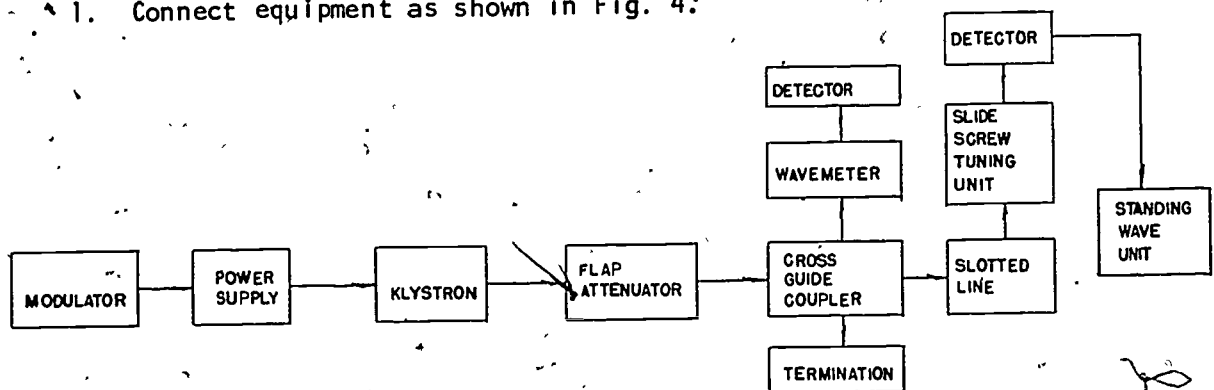

Fig. 4 30
1. Connect equipment as shown in Fig. 4: